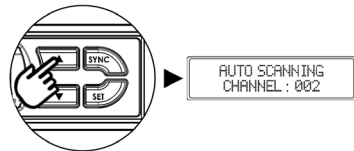

Figure 11
2. Press UP or DOWN button to find and locate a clear, interference-free channel (Fig 11).